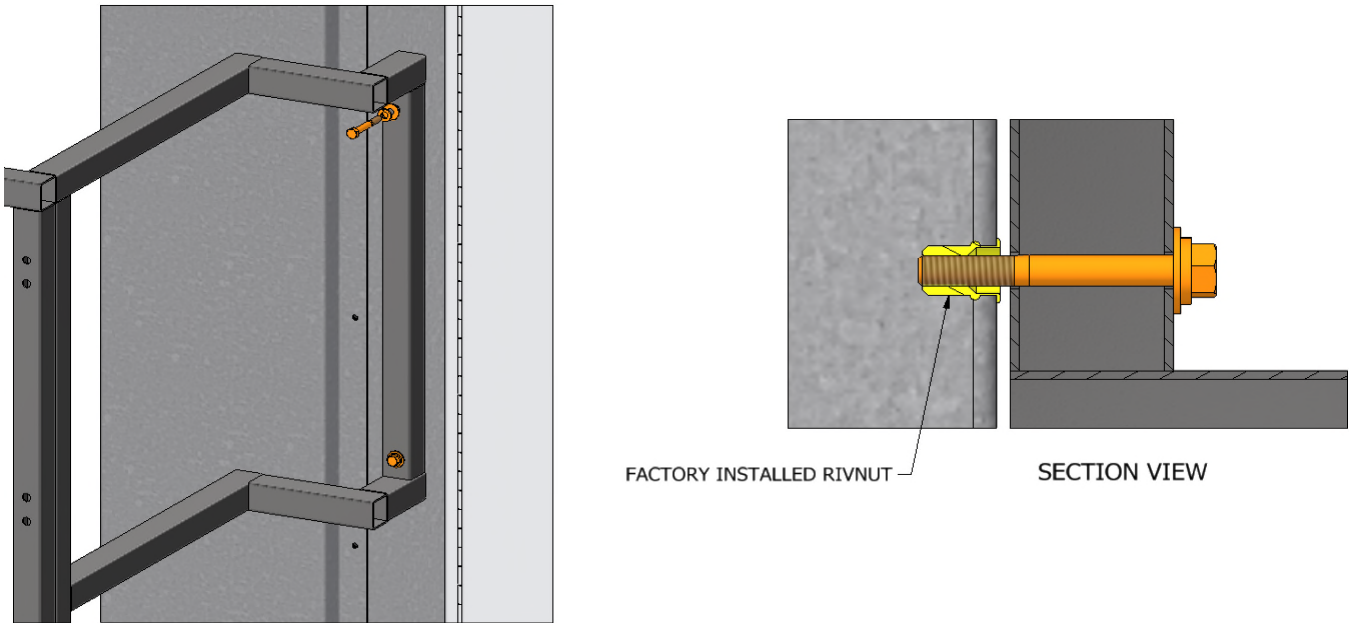

Figure 21. External Platform Handrail to Unit Connection
6. Bolt the external platform railing to the unit using 5/16" hardware as shown in **Figure 21**.